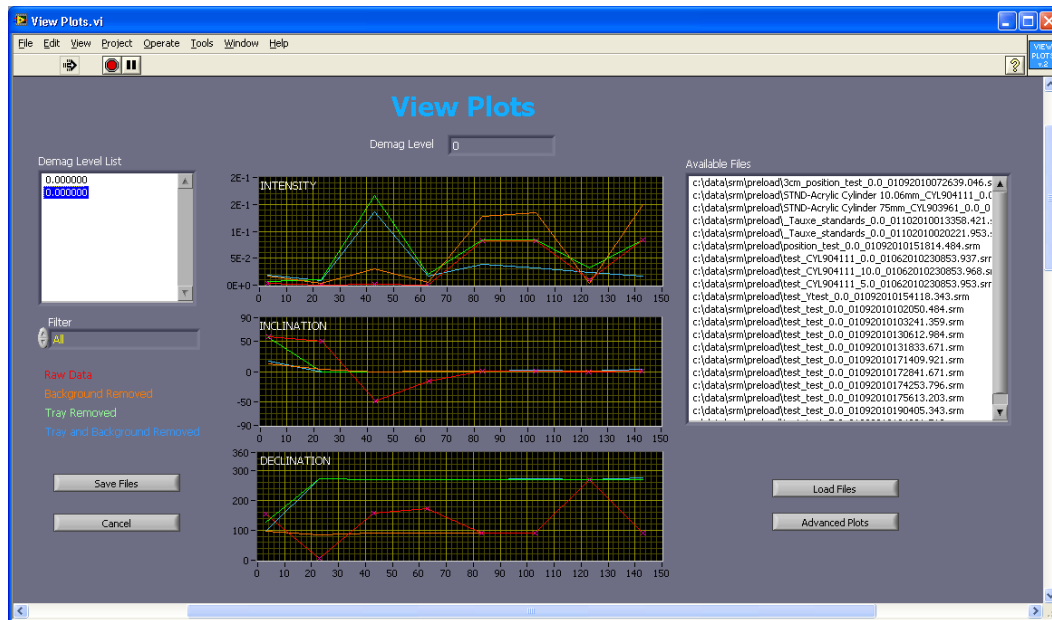

Figure 9. View Plots Screen.
1. Select **View Plots** from the *Main* screen to open the *View Plots* screen (**Figure 9**).